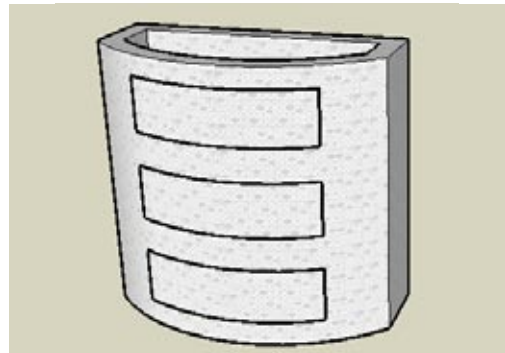

Figure 3-39
6. Close the component (right-click outside the component and choose Close Component). The building and the other window frames return to the view. Because each component is identical, each window is now a trimmed frame (Figure 3-39).